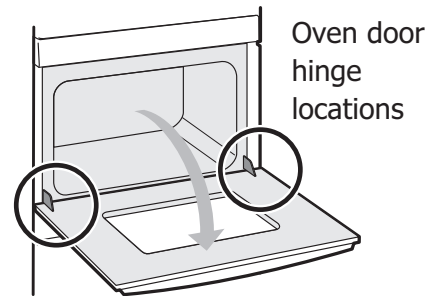

Figure 19: Door at horizontal position
3. Fully open the oven door, horizontal with floor (Figure 19).